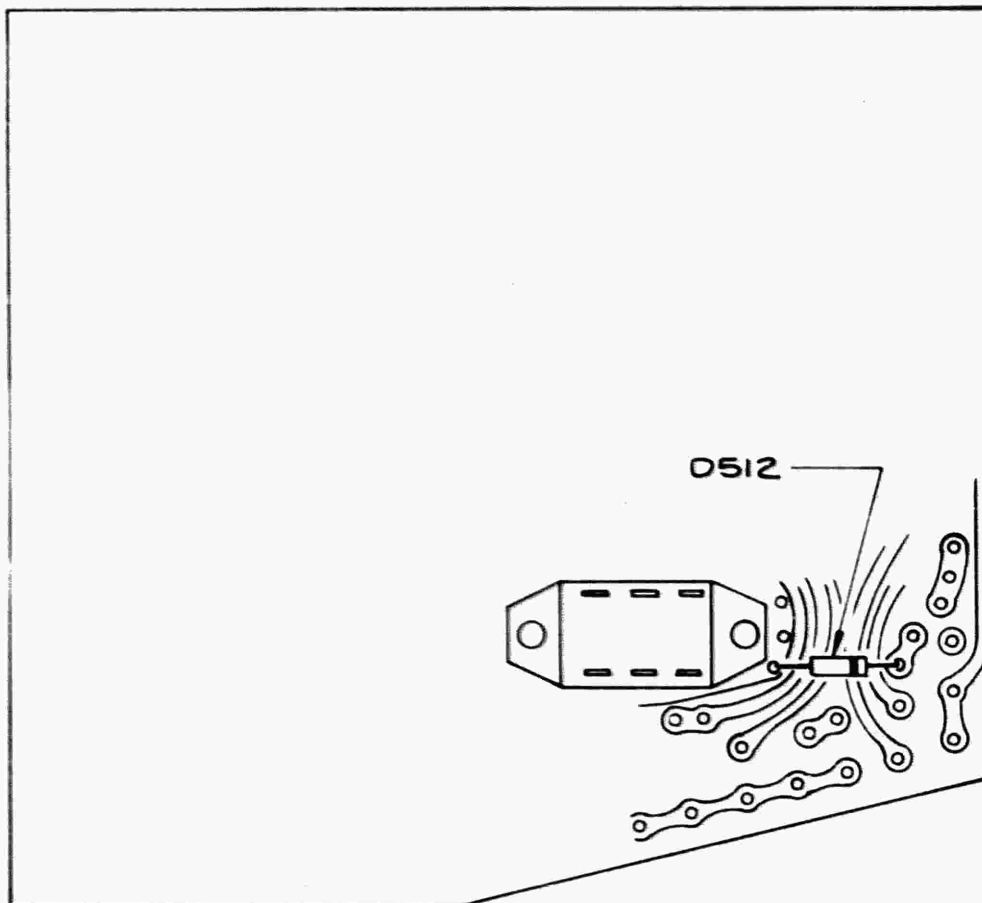

FIG. 1
- Remove D512, a 6185 diode, from its location as shown in Fig. 1.